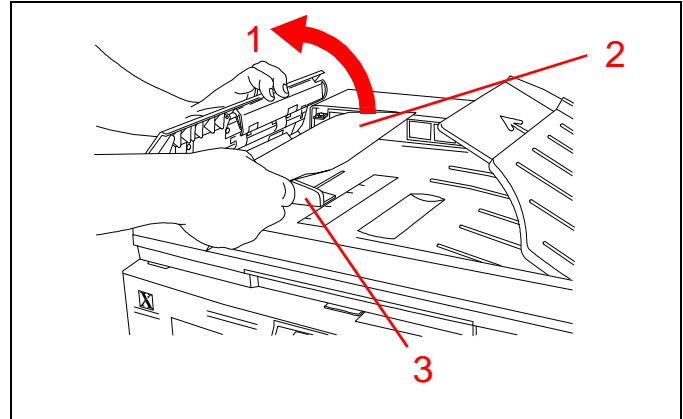

Figure 6
1. See Figure 6. Open the ADF left cover by lifting it to the left.